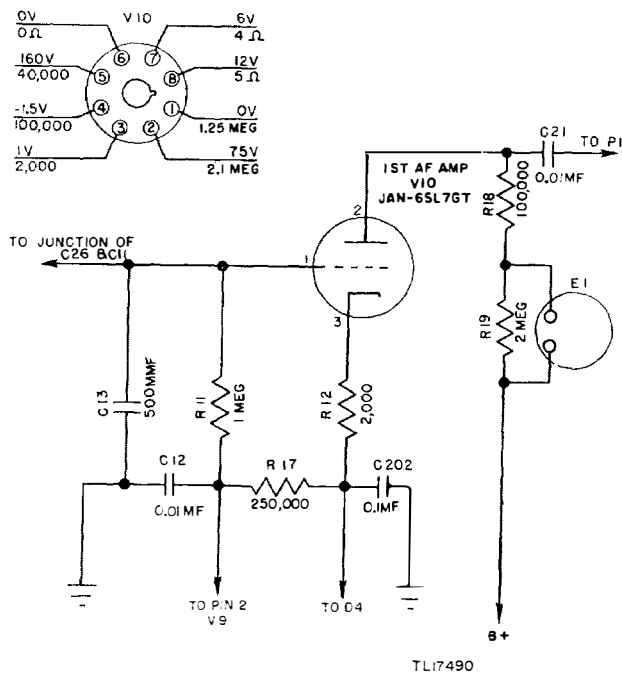

Figure 32. Radio Receiver BC-603-(*), first audio-frequency amplifier, V10'—schematic diagram.
39. Parts List for First Audio-amplifier Stage, V10' (fig. 32)